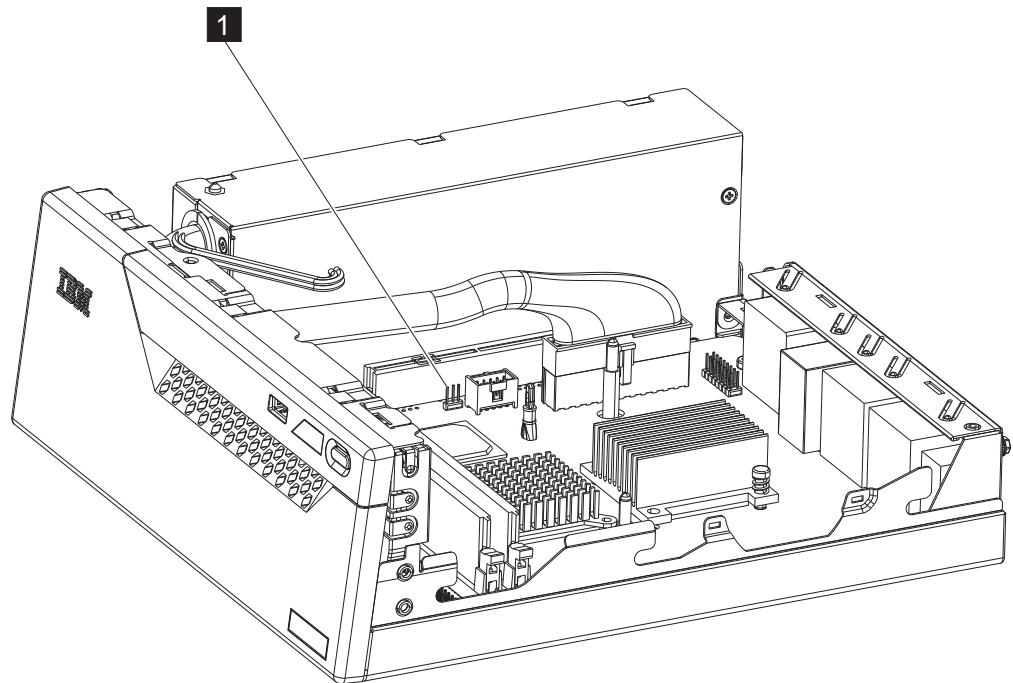

Figure 30. Locating and resetting the CMOS jumper
The removal and installation instructions are the same for both the Models x5x and x4x; however, Figure 30 is a diagram of the Model x4x unit.
5. Locate the CMOS jumper **1**, as shown in Figure 30.